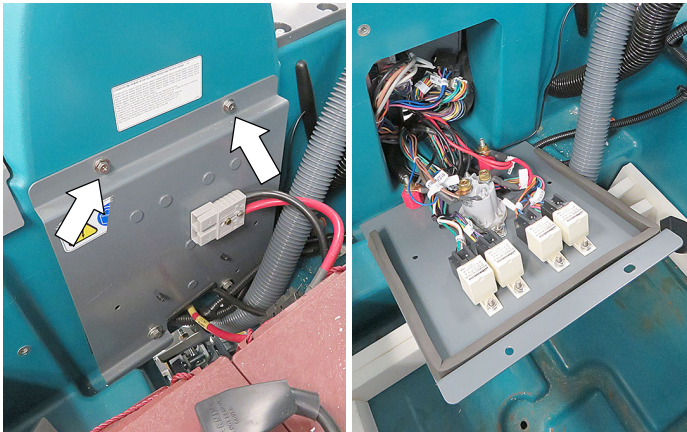

Fig. 35
1. Remove the two upper screws from the electrical panel and carefully lower the panel as shown (Figure 35). If necessary, remove the two rear batteries from the machine to allow additional clearance. Keep the metal electrical panel away from battery posts.